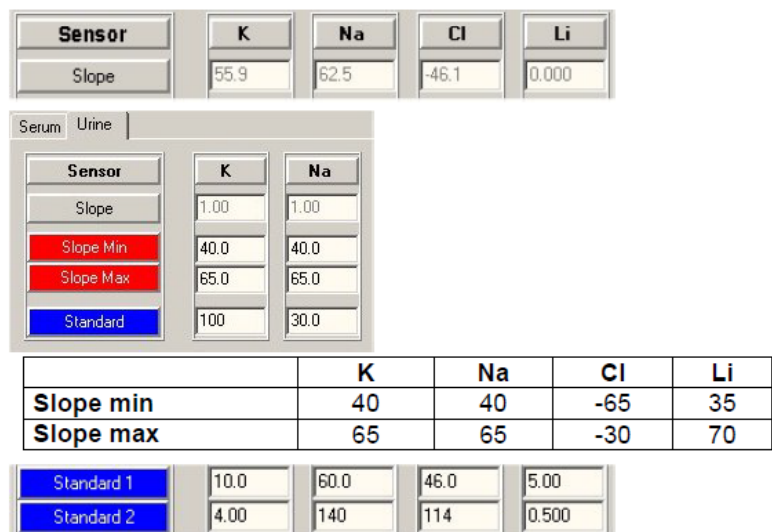

Figure 7
- d) Verify that programmed values for the standards (solution A/solution B) correspond to the used lot. Programming is performed as shown in **Figure 7**, where the values for two standards must be entered for the calculation of slope during the calibration.